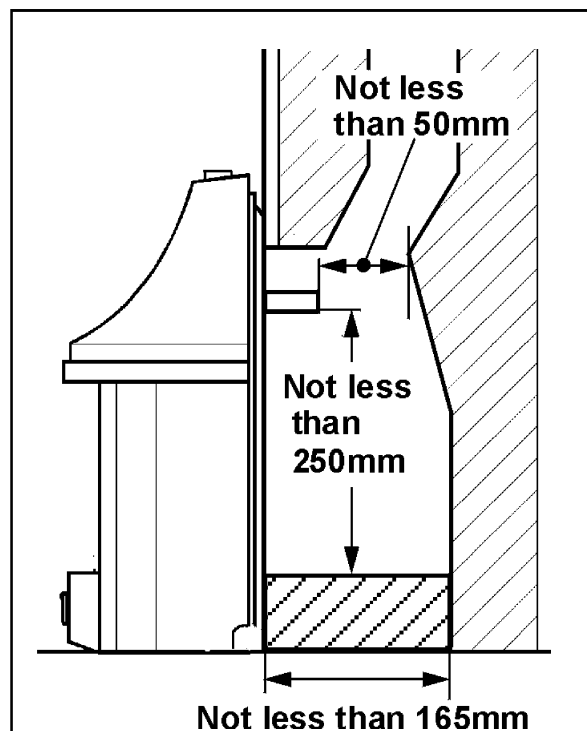

Figure 2 Fireplace catchment space.
finished floor covering. Any opening visible below the appliance may be closed in but the depth of the catchment space within the wall opening must be as shown in figure 2.
On conventional flues the catchment space below the flue spigot must extend at least 250mm downward measured from the bottom of the flue spigot (See figure 2).
5.3.11 If the fire is fitted to a recessed fireplace, an extension flue spigot up to a maximum total length of 125mm may be used. The extension must be a tight fit over the flue spigot and be secured by two self tapping screws. Note the minimum clearance required as shown in figure 2.